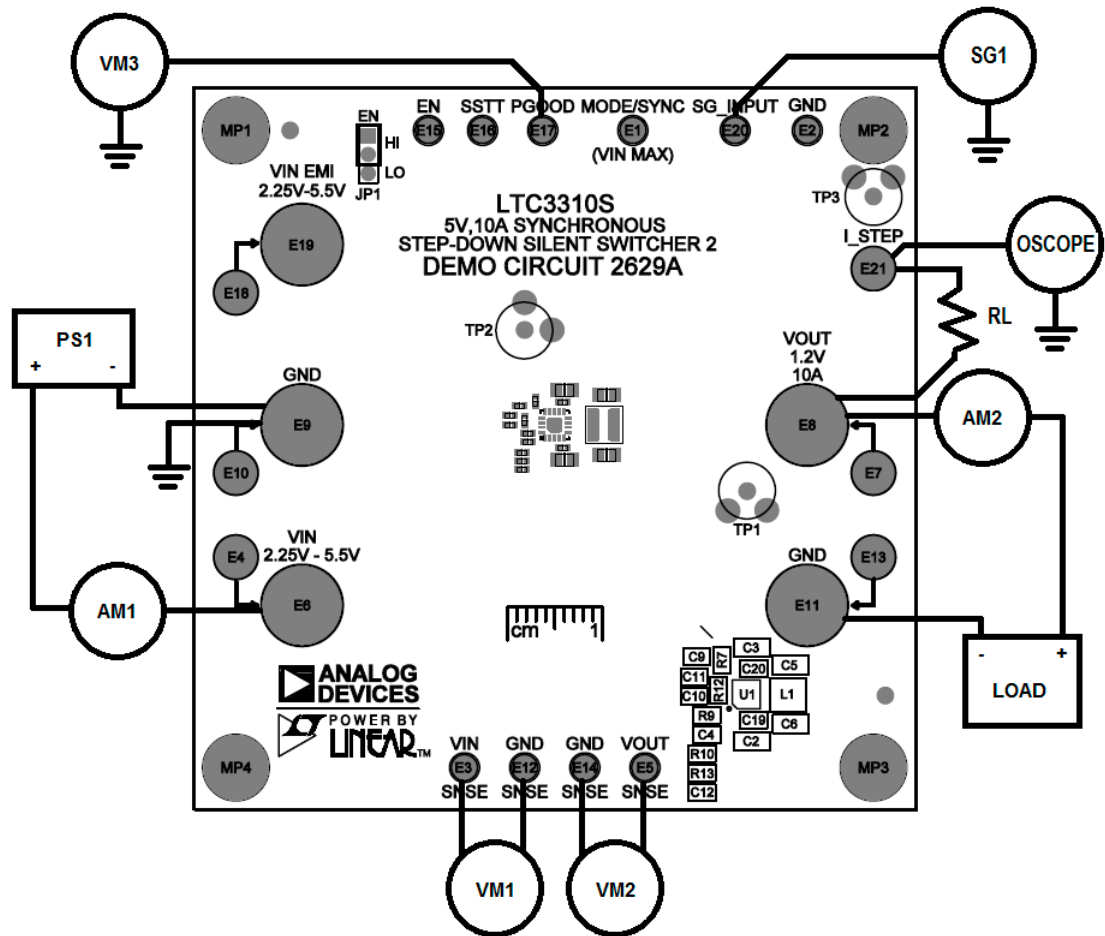
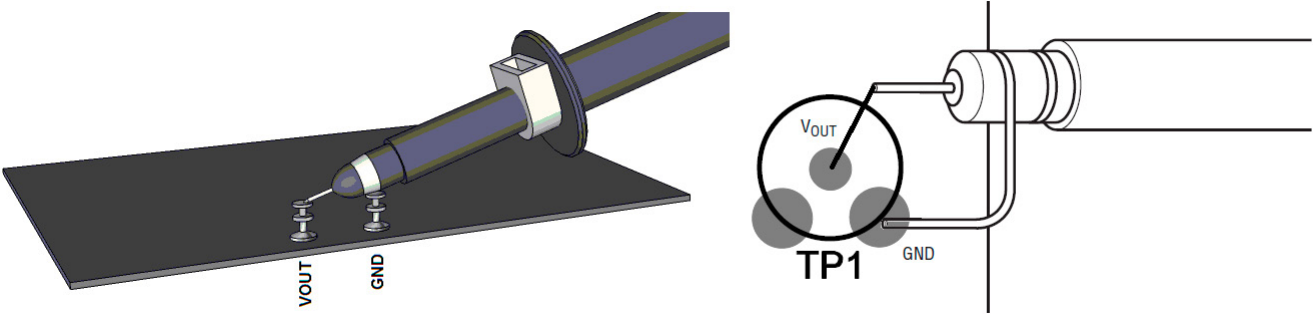

Figure 1. Test setup for the DC2629A Demo Board
Figure 2. Technique for Measuring Output Ripple and Step Response
Demonstration circuit 2629A is easy to set up and evaluate the performance of the LTC3310S. Refer to Figure 1 for proper measurement equipment setup and follow the procedure below:
NOTE: For accurate V_{IN} , V_{OUT} and efficiency measurements, measure V_{IN} at the V_{IN} SNSE and GND SNSE turrets and V_{OUT} at the V_{OUT} SNSE and GND SNSE turrets as illustrated as VM1 and VM2 in Figure 1. When measuring the input or output voltage ripple, care must be taken to avoid a long ground lead on the oscilloscope probe. Measure the output voltage ripple by touching the probe tip directly across the output turrets or to TP1 as shown in Figure 2.
3. Slowly increase PS1 to 1.0V. If AM1 reads less than 20mA, increase PS1 to 3.3V. Verify that VM1 reads 3.3V and VM2 reads 1.2V. Record VM1, VM2, VM3 AM1 and AM2. Connect an oscilloscope voltage probe as shown in Figure 2. Set Channel to AC coupled, voltage scale to 20mV and time base to 10 μ s. Record V_{OUT} ripple voltage. Verify that PGOOD voltage is above 3V. Calculate Die temperature using formula below:
7. To test the transient response with a base load, add the desired resistor to produce a minimum load between V_{OUT} and I_STEP turrets (RL shown on Figure 1). Note that the total load resistance will be RL plus R14 (100m Ω). Adjust a signal generator with a 10ms period, 10% duty cycle and an amplitude from 1V to 2V to start.